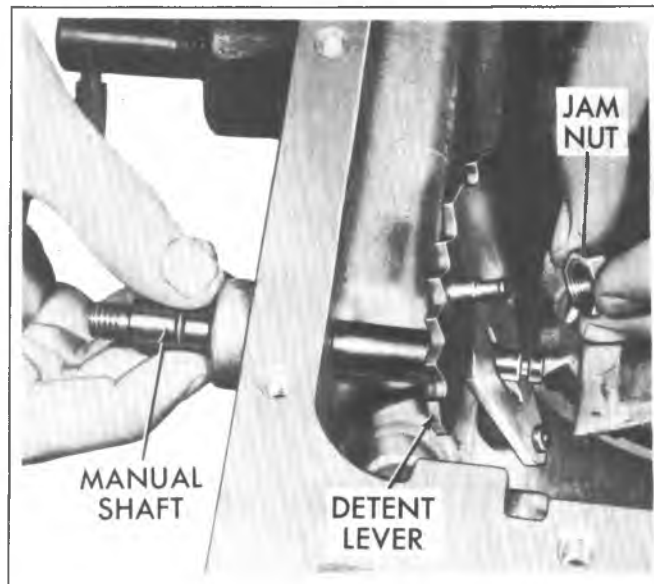

Fig. 7A-165C—Installing Detent Lever and Jam Nut to Manual Shaft
- e. Install detent jam nut on manual shaft, and tighten to 18 ft. lbs. (Fig. 7A-165C).